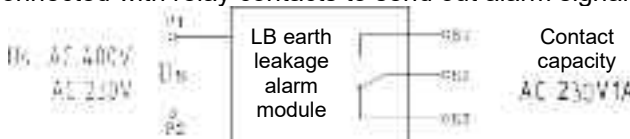

Figure 1 Wiring diagram of the LB earth leakage alarm module
9. LB earth leakage alarm module (see Figure 1)